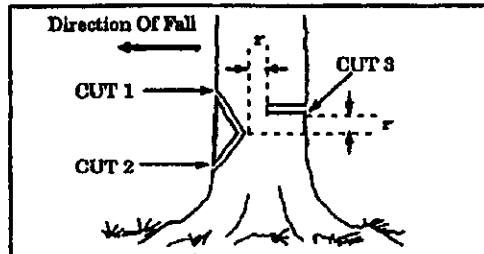

Figure 20
NOTE: If the tree has large buttress roots, remove them before making the notch. Cut into the buttresses vertically, then horizontally. Figure 20.
- a. Make the notch cut. Refer to Figure 20.